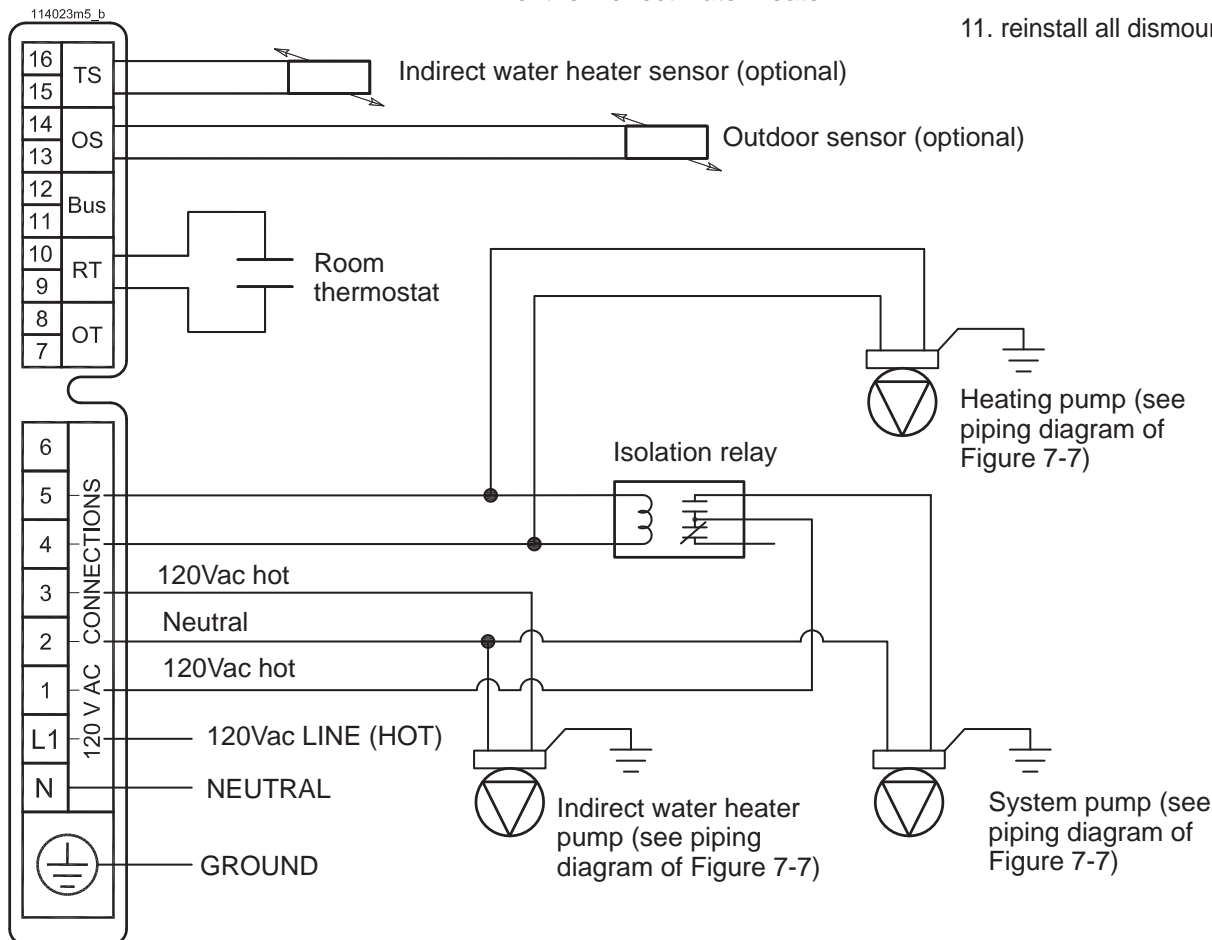

Figure 9-1 Electrical connections for 160-B model (see Figure 7-7)
This boiler, can be connected to an indirect water heater. The water connection must be made per figure 7-7. Heating pump item "9" of Figure 7-7 is mandatory for boiler model 160-B. The electrical connections must be made per figure 9-1. To change the logic of the boiler, to drive and load an indirect water heater, follow the steps below while referring to Figure 9-2:
9. use a # 18 AWG two wire cable to connect the indirect water heater temperature sensor to terminals "15" and "16", as per Figure 9-1